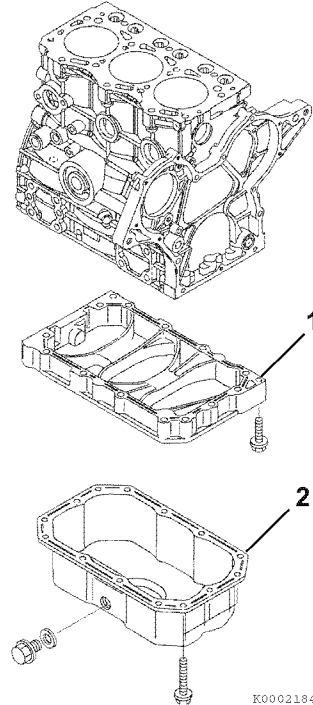

Figure 6-45
- Remove the oil pan (**Figure 6-45, (2)**).
- Remove the crankcase extension (**Figure 6-45, (1)**) if equipped.